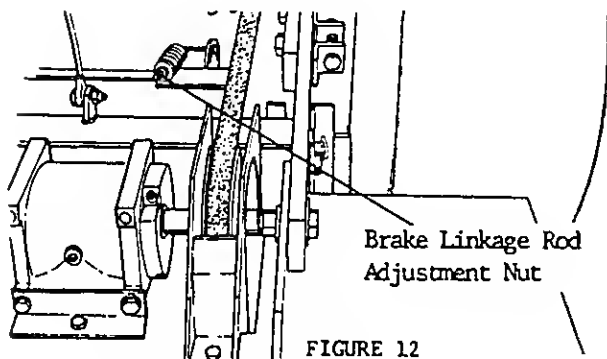

FIGURE 12
2. Shorten brake linkage rod by turning locknut clockwise. (See Fig. 12).